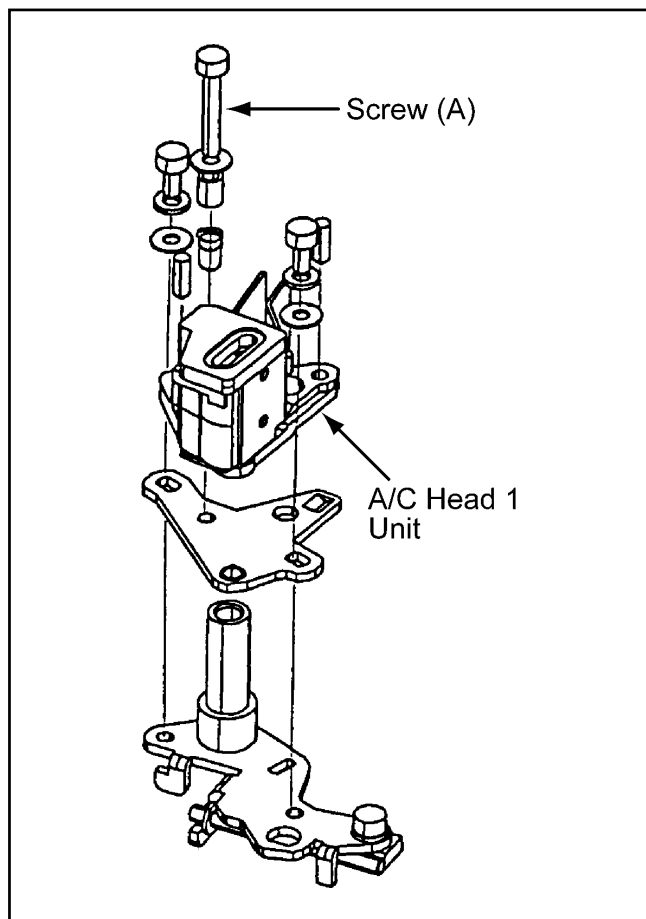

Figure 2-7-1
1. Unscrew the screw (A) with spring as shown in Figure 2-7-1 and 2-7-2, and remove the A/C Head 1 Unit.